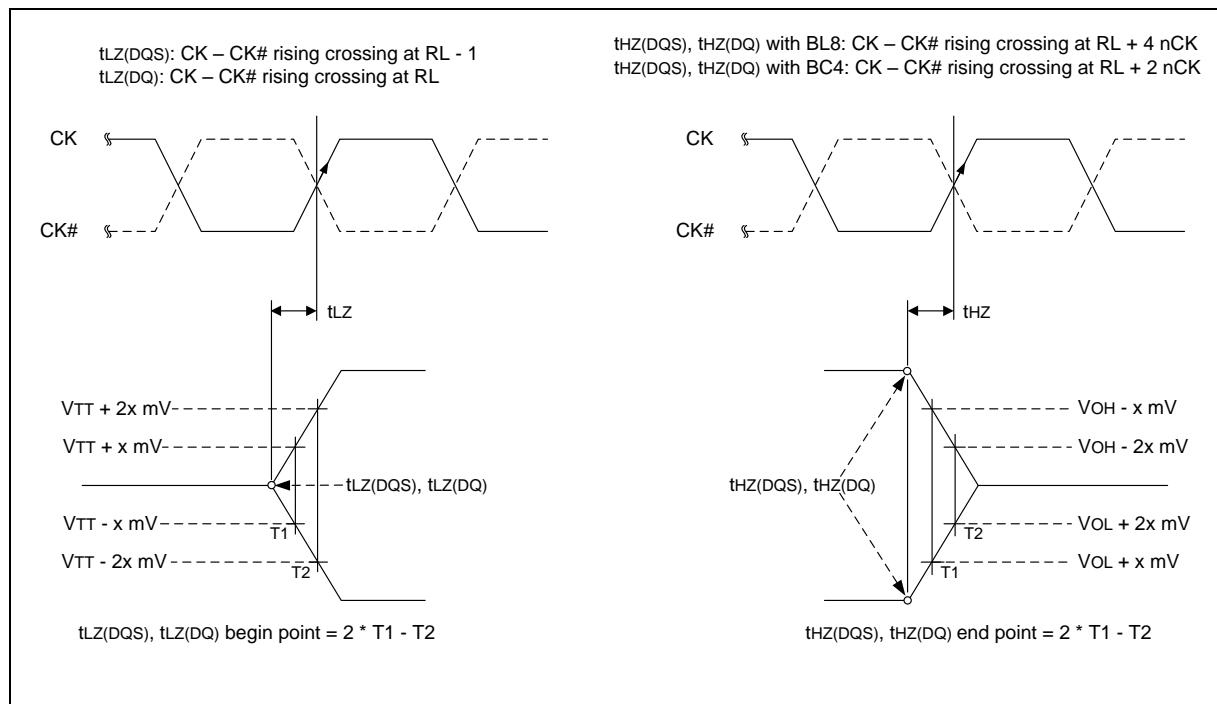

Figure 26 – tLZ and tHZ method for calculating transitions and endpoints
tLZ(DQS), tHZ(DQS) for preamble/postamble (see section 8.13.2.3 and Figure 26).
tHZ and tLZ transitions occur in the same time window as valid data transitions. These parameters are referenced to a specific voltage level that specifies when the device output is no longer driving tHZ(DQS) and tHZ(DQ), or begins driving tLZ(DQS), tLZ(DQ). Figure 26 shows a method to calculate the point when the device is no longer driving tHZ(DQS) and tHZ(DQ), or begins driving tLZ(DQS), tLZ(DQ), by measuring the signal at two different voltages. The actual voltage measurement points are not critical as long as the calculation is consistent. The parameters tLZ(DQS), tLZ(DQ), tHZ(DQS), and tHZ(DQ) are defined as singled ended.